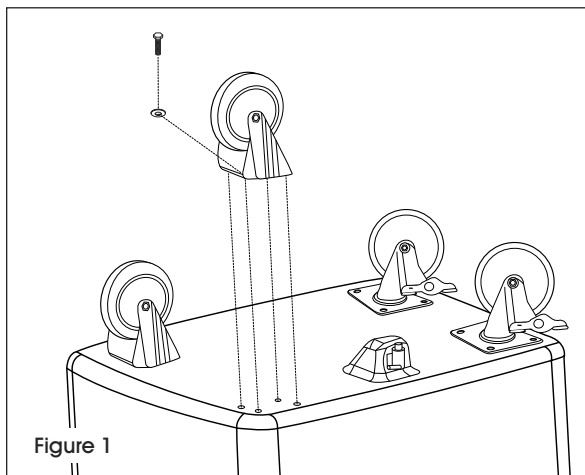

Figure 1
1. Attach the casters to the bottom of the cart with the hardware provided. (See Figure 1)